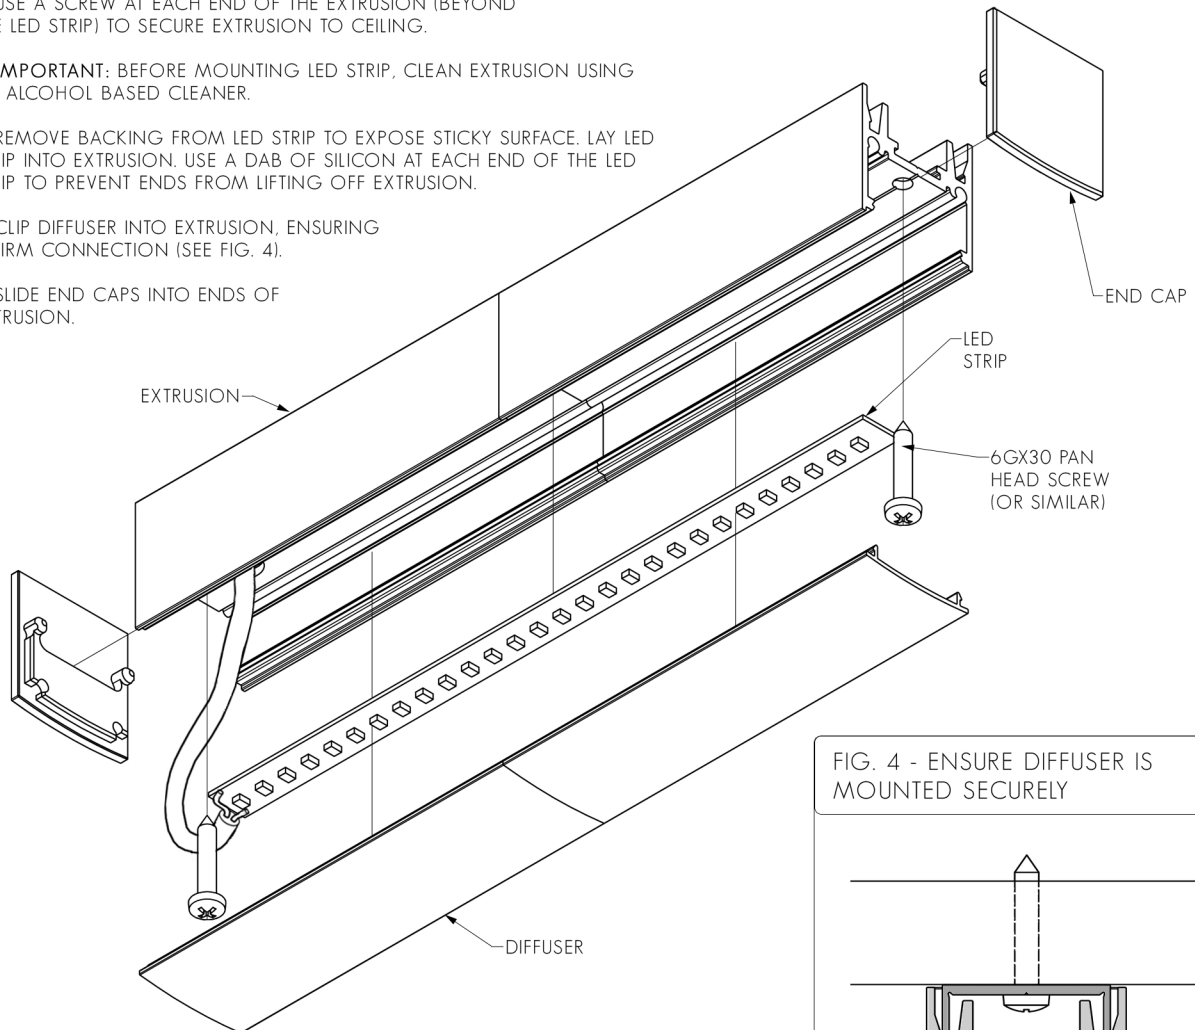

FIG. 4 - ENSURE DIFFUSER IS MOUNTED SECURELY
4. CLIP DIFFUSER INTO EXTRUSION, ENSURING A FIRM CONNECTION (SEE FIG. 4).